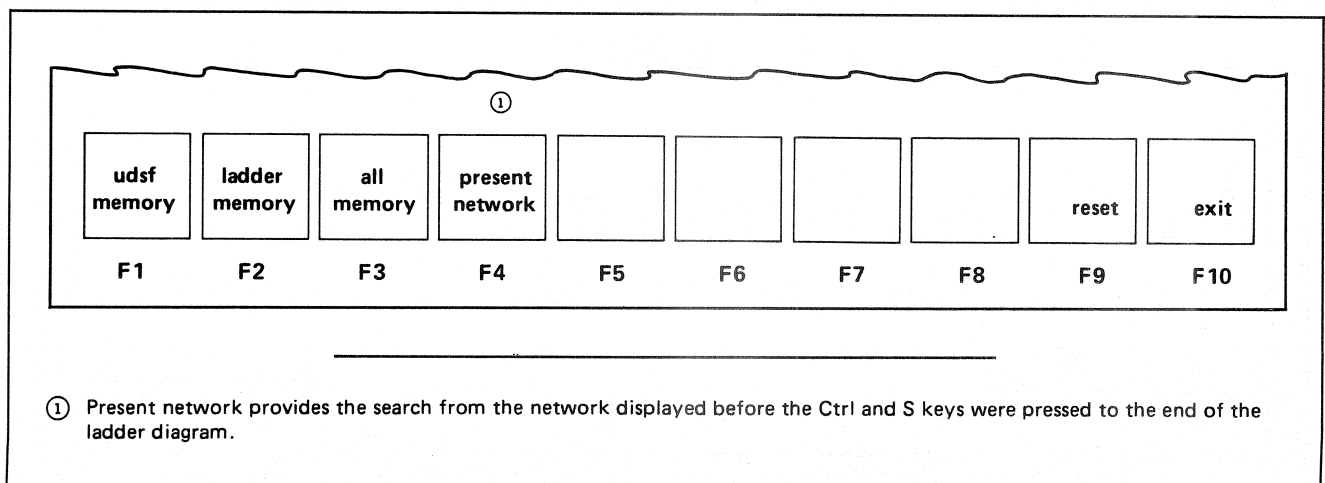

Figure 11-3. Ladder Diagram Portion Selection
**Step 5** – Select the portion of the ladder diagram to be searched from the function key portion of the screen shown in Figure 11-3. This screen is displayed immediately after entering the contact's reference number.
**Step 5** – Select the portion of the ladder diagram to be searched for from the screen shown in Figure 11-3. This screen is displayed immediately after entering the register or group reference number.
searched from the screen shown in Figure 11-3. This screen is displayed immediately after entering the coil's reference number.
**Step 4** – Select the portion of the ladder diagram to be searched from the screen shown in Figure 11-3.